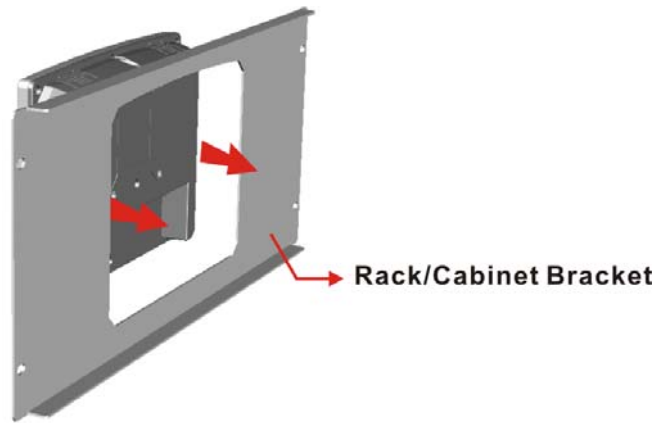

Figure 3-22: Rack/Cabinet Bracket Installation
- Step 1:** Slide the rear chassis of the AFL3-12A/W15A-BT flat bezel panel PC through the rack/cabinet bracket until the frame is flush against the front of the bracket (**Figure 3-22**).